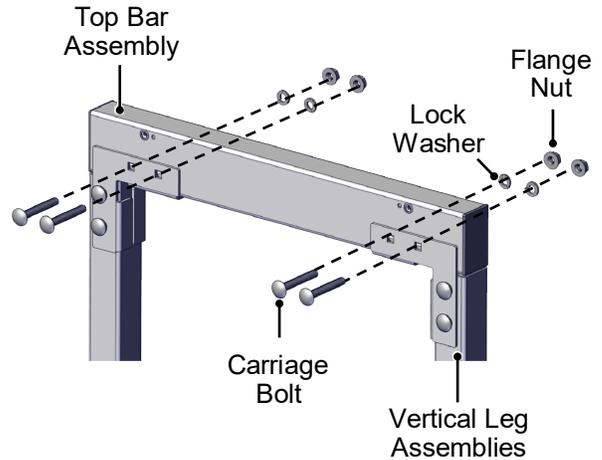

Fig 6. Attach Top Bar Assembly to Vertical Leg Assemblies.
- Attach the Top Bar Assembly to the Vertical Leg Assemblies with four (4) Carriage Bolts, four (4) Flange Nuts, and four (4) lock washers (Fig 6).